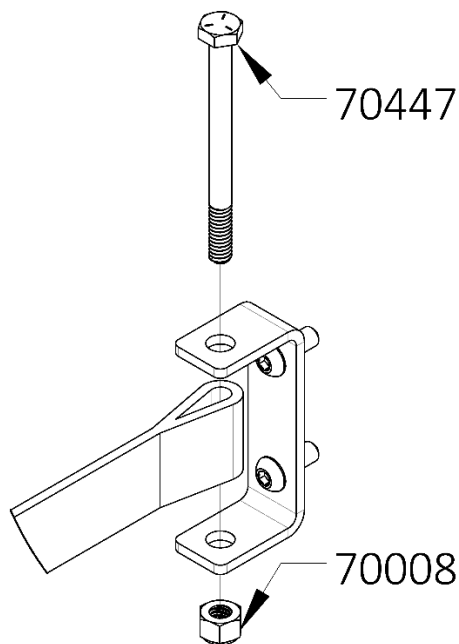

Figure 19: Door Stop Channel Hardware
31. Thread the door strap (401035) into the door stop channel (Step 28) as shown in Figure 19.